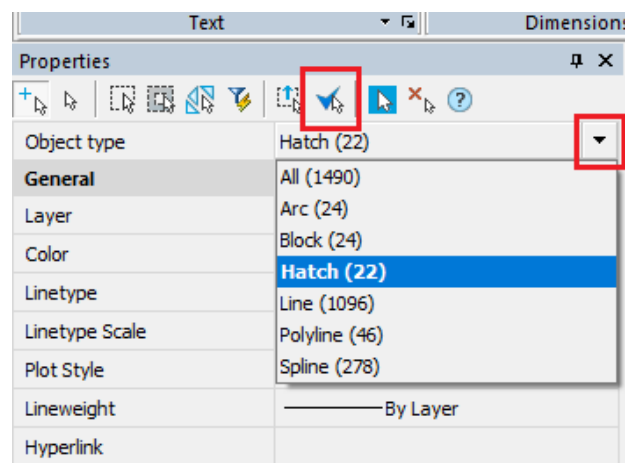

Fig. 28. Select only hatch
2.10.3. In the **Properties**, choose **Hatch** in the **Object type** field (fig. 28):